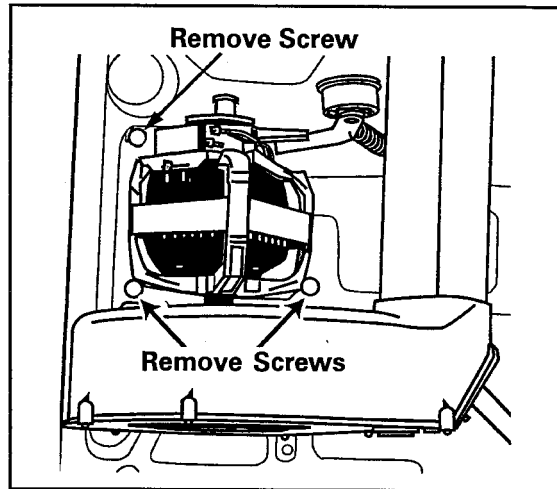

Figure 7-7
9. Remove three screws securing motor to base frame. An extension is required to reach the screws. Screws are located directly behind the blower housing and the motor. *(See Figure 7-7)*